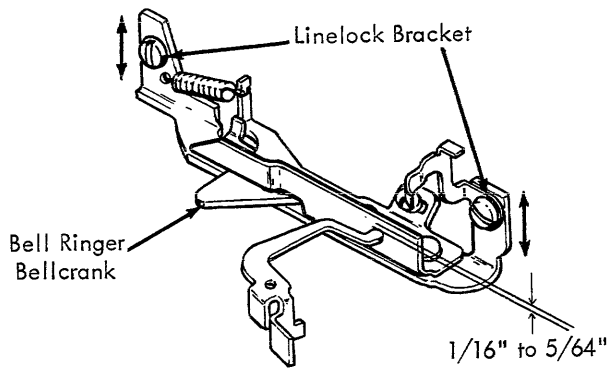

FIGURE 182A. Line Lock Bracket
- 6. Line Lock Bracket - Adjust the line lock bracket up or down so that the bellringer bellcrank will ride $1/16''$ to $5/64''$ from the bottom as the carrier moves into the line lock position. (Fig. 182A).